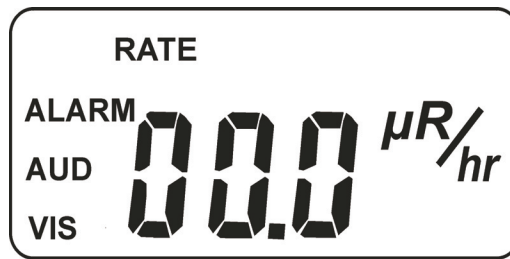

Figure 3 The Rate Display
- The Rate Mode display should appear, with the word RATE shown at the top left of the screen (Figure 3).